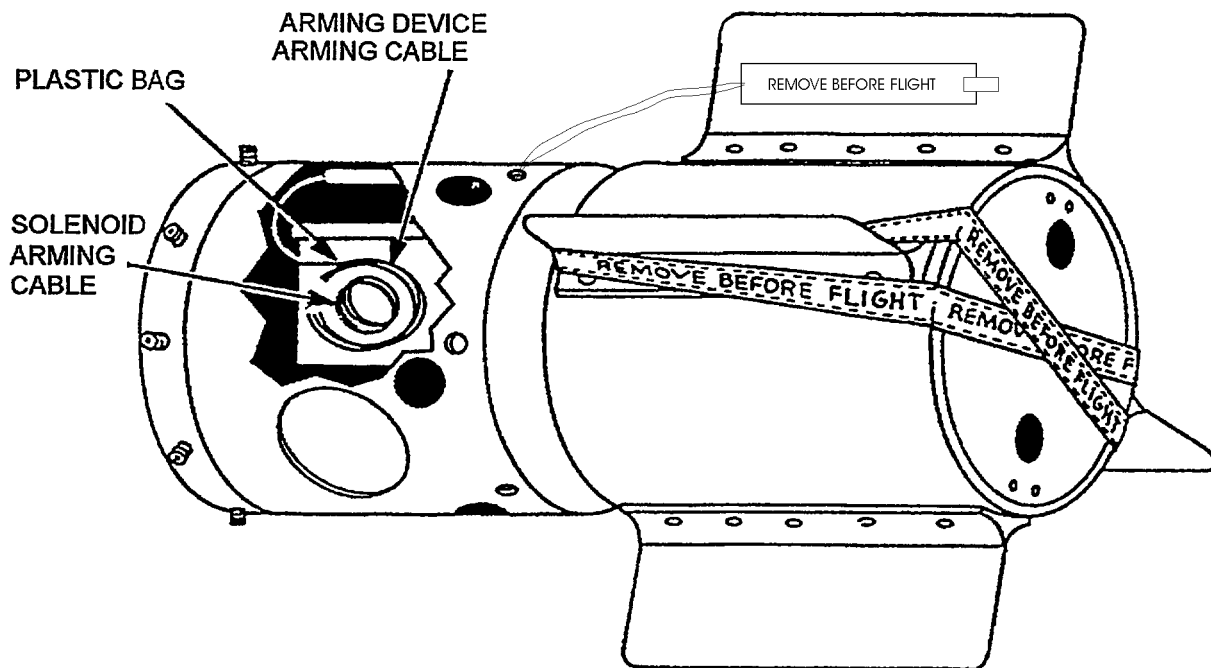

Figure 5-5A. Securing Arming Cable to Tail Section
- g. Place the two coiled cables in an 8 x 8-inch plastic bag. Using pressure-sensitive tape, secure the plastic bag to the inside wall of tail section as shown in Figure 5-5A.